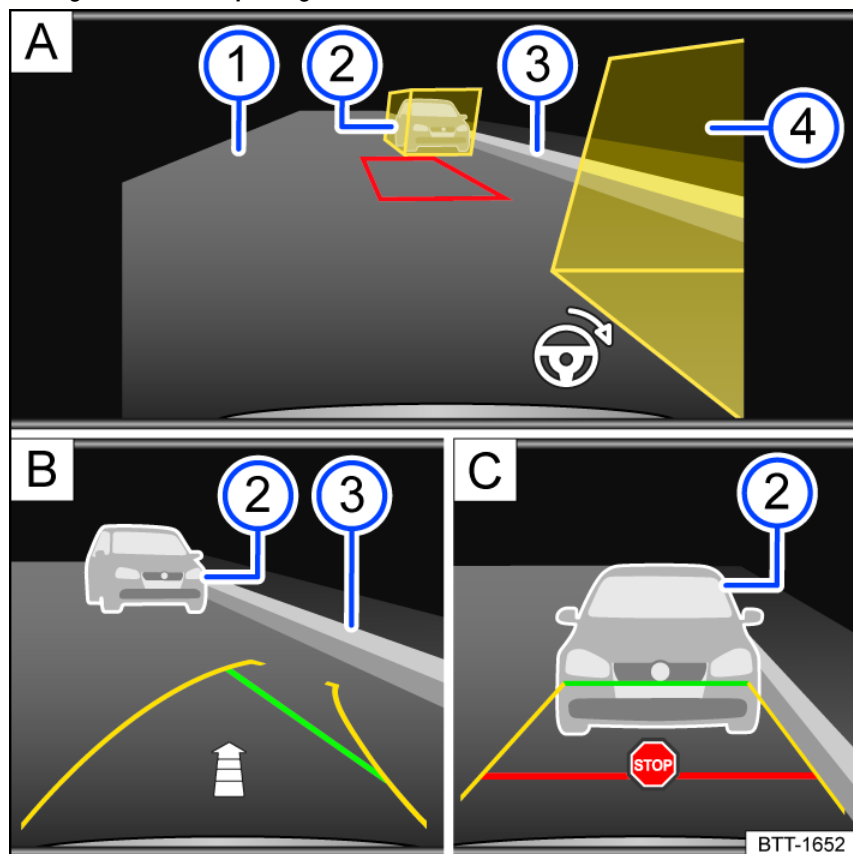

Fig. 124 Infotainment system: Parking parallel to the road.
- Position the vehicle at a distance of approximately 1 m (3 ft) parallel to the parking row. The yellow assisting boxes must cover the obstacles fig. 124 **A** 2 c 4. The area in between must be free of obstacles.
- Select the reverse gear. A red frame represents the target position of your vehicle fig. 124 **A**.
- Turn the steering wheel until the red frame moves between the assisting boxes and becomes green fig. 124 **A**. Hold the steering wheel in this position while driving in reverse.
- Drive slowly in reverse until the  stop symbol appears or the green line aligns with the side boundary of the parking space fig. 124 **C**. An fig. 124 **B** arrow indicates the remaining distance to be driven based on the number of displayed segments.